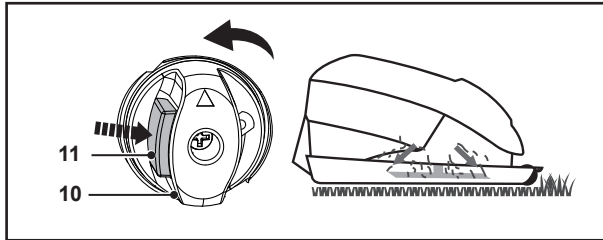

Fig. 9
- Press the unlock button (11) and turn the collect/mulch mode selector (10) anti-clockwise to open the mulch flap (12) (Fig. 9).